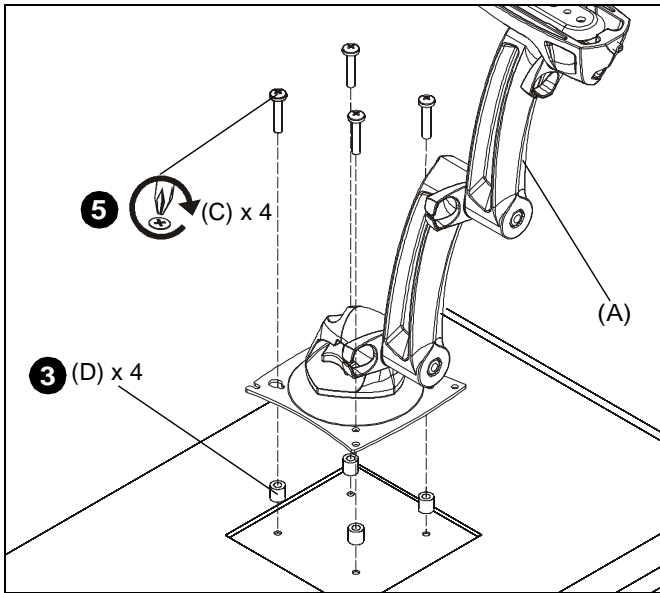

Figure 12
3. Place the four spacers (D) over each of the mount holes on the back of the display. (See Figure 12)
4. Pick up and orient the mount (A) so that the mounting holes are aligned with the holes in the spacers; rotate the bracket as required. (See Figure 12)
5. Using Phillips screwdriver, install four M4x25mm screws (C) through the mounting holes, through the spacers and into the display. (See Figure 12)